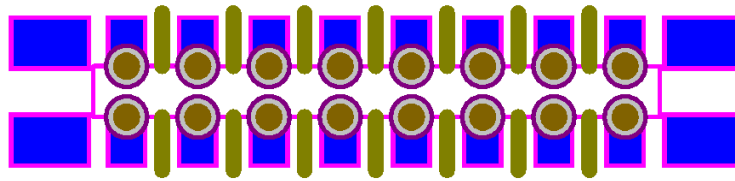

Figure 5.4 Plug-in PCB View
- It is suggested to put metallized through holes between the module pad and PCB slots to improve connectivity. See the recommended lay-out in Figure 5.4.